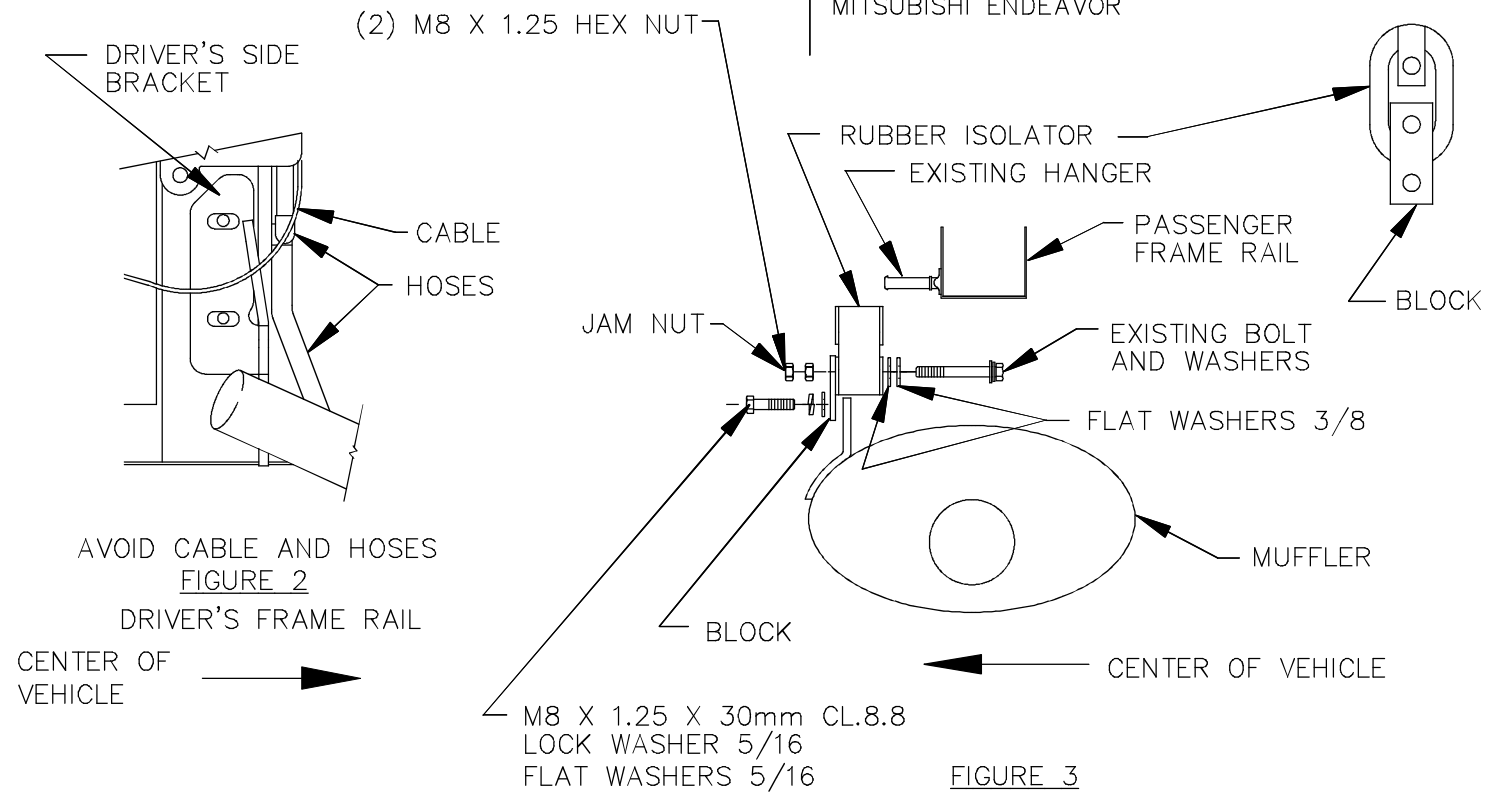

FIGURE 3
7. USING THE EXISTING BOLT AND WASHERS ADD THE (2) 3/8" FLAT WASHER TO THE BOLT AND THRU THE RUBBER ISOLATOR. ATTACH THE BLOCK ON THE OPPOSITE SIDE AND USING ONE OF THE M8 NUT TIGHTEN THE BLOCK TO THE RUBBER ISOLATOR AS SHOWN FIGURE 3. (SLIGHTLY COMPRESSING THE RUBBER ISOLATOR.) ATTACH THE OTHER M8 NUT AND USE IT TO JAM THE TWO M8 NUTS.